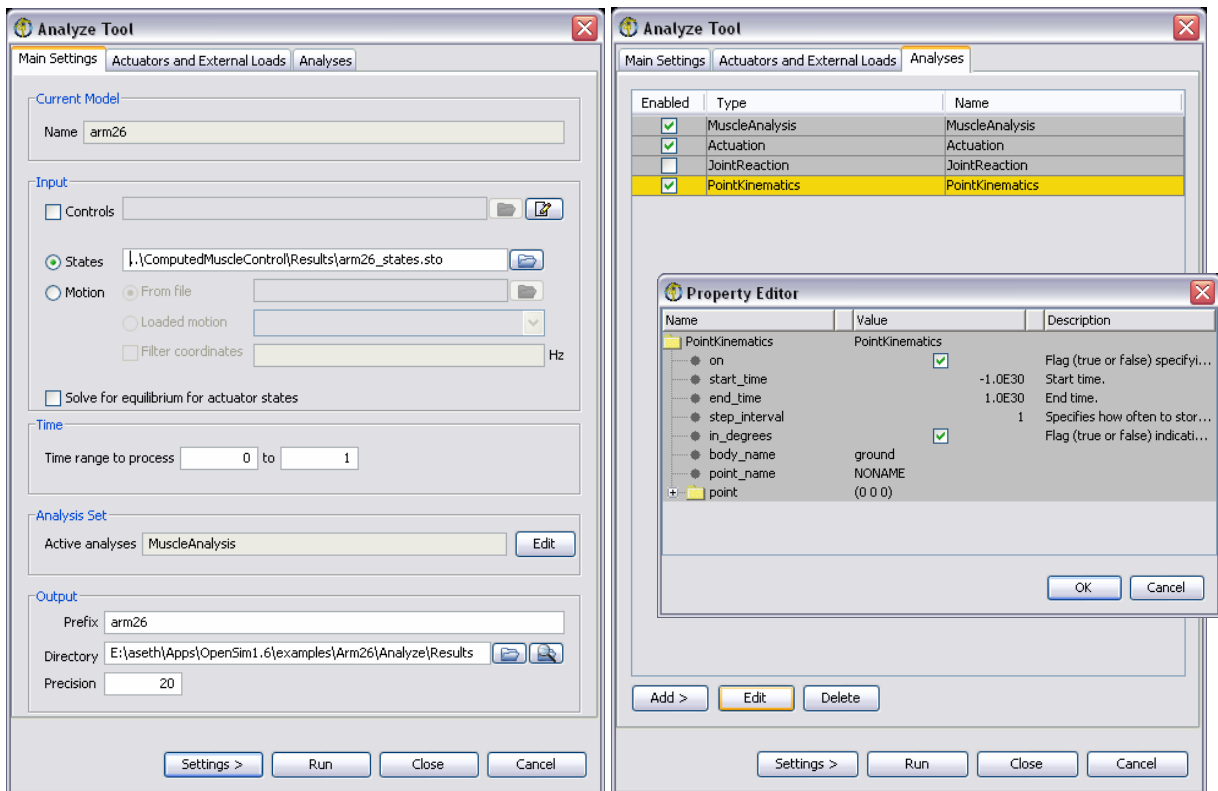

Figure 12-1: The Analyze Tool. The main settings (a) and analyses (b) panes.
1. **Open Analyze Tool.** To open the tool (Figure 12-1), select **Analyze...** from the **Tools** menu.
5. **Specify MuscleAnalysis.** From the Analyses pane (Figure 12-1) **Add** > MuscleAnalysis to the list of analyses.